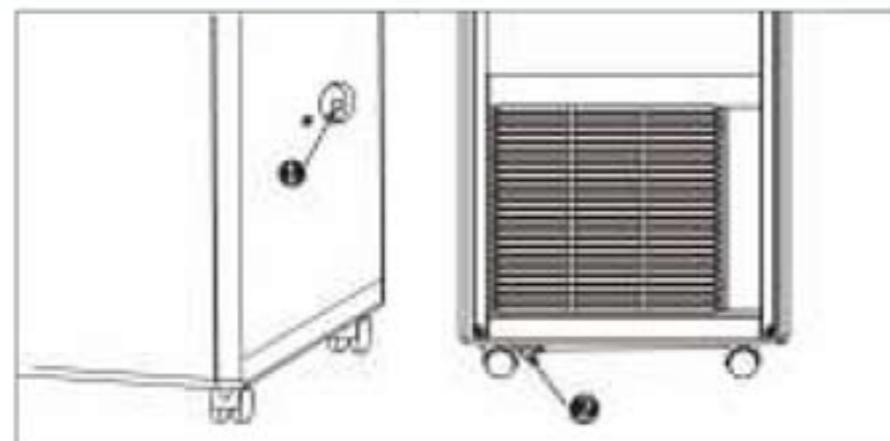

Fig. 10
1. When the unit is in cooling mode, it is not necessary to install the condensate drainage pipe since condensate evaporates automatically. Make sure that when the unit is operating, the rubber plug of the drainage hose is securely fixed (see Fig. 10).
2. In heating mode, remove the rubber plug (2) of the drainage hose (Fig. 10), install the respective drainage hose to improve heating efficiency.
3. In dehumidification mode, remove the rubber plug (2) of the drainage hose, install the respective drainage hose.
When the condensate collection tank is filled up, water needs to be drained, otherwise the unit will not operate. Condensate should be drained by opening the lower plug at the device's base (Fig. 10 pos. 2).
4. Take the hose out to the drainage system to remove condensate; A hole designed for continuous condensate removal in the center of the device (Fig. 10 pos. 1) can be used for continuous condensate removal under conditions of increased humidity inside a room.